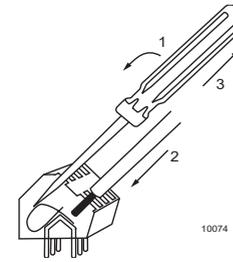

Figure 5. Cage clamp terminals (standard).
- Wire gauges see Fig. 5 and 6